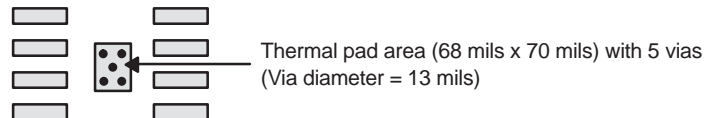

Figure 52. PowerPAD™ PCB Etch and Via Pattern
1. Prepare the PCB with a top side etch pattern as shown in Figure 52. There should be etch for the leads as well as etch for the thermal pad.